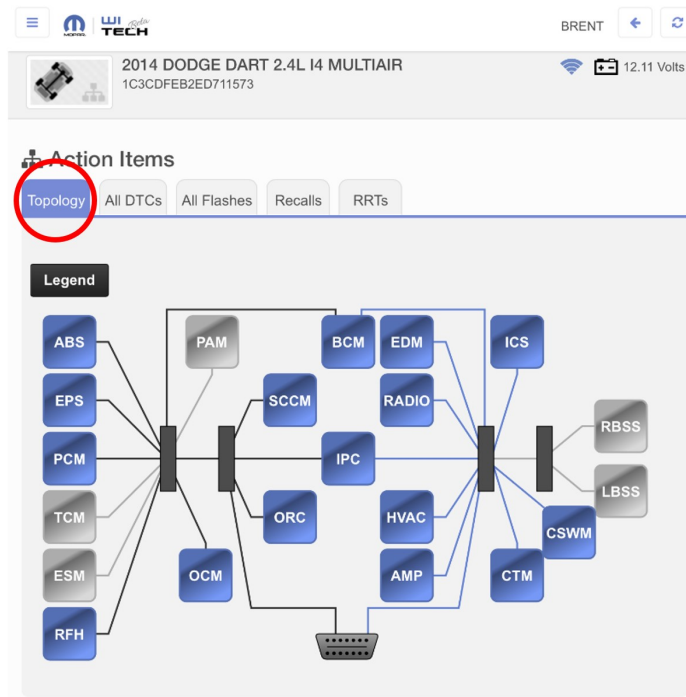

Fig. 3
7. From the “Action Items” screen, select the “Topology” tab (Fig. 3) .